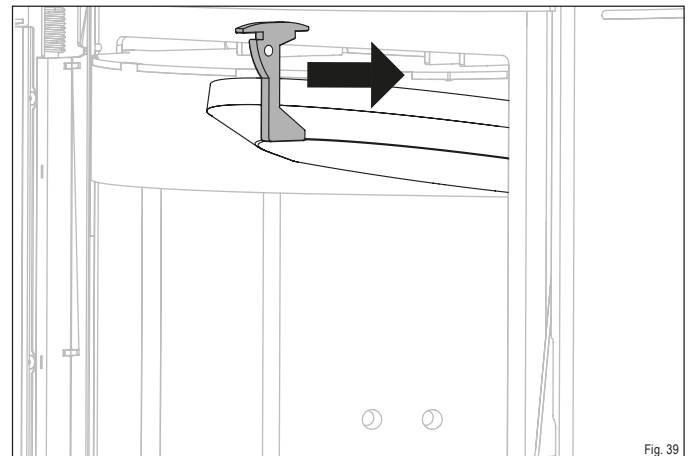

Fig. 39
- ▶ Slide the firebrick retainer forward (Fig. 39).